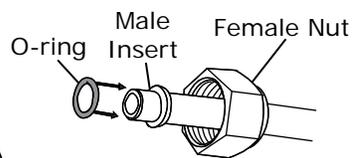

**Figure 19**
2. In line with the drain, lightly make a mark on the firewall. Measure 1" down, and drill a 5/8" hole through the firewall (See Figure 19, below).
4. Install a 1/2" 90° drain elbow onto the drain hose (See Figure 19, below).